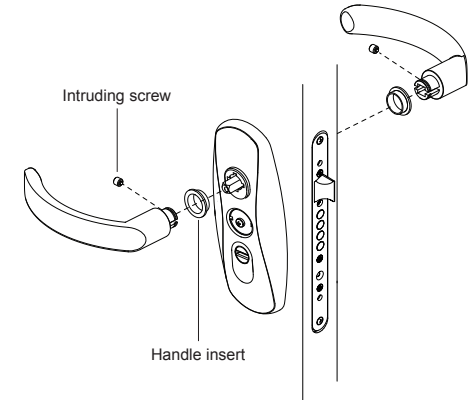

Fig 7
8. Assemble external and internal handles (Fig 7).